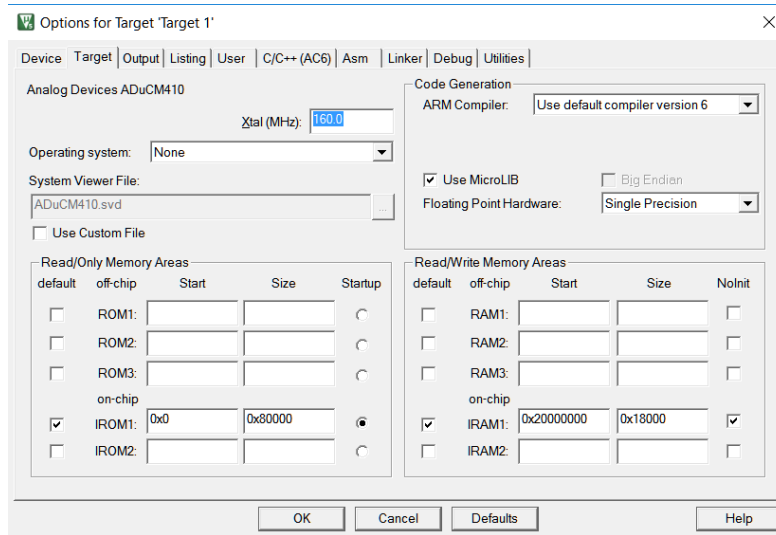

Figure 28. Keil General Options
2. Selecting the **Configure Flash Tools** option opens the window shown in Figure 28. Click the **Target** tab, and ensure the **Floating Point Hardware** dropdown box is set to the **Single Precision** option, as shown in Figure 28.
- After establishing the settings shown in Figure 28, run the FPU example code from the C:\Analog Devices\ADuCM410\examples\M410_FPU folder in the example